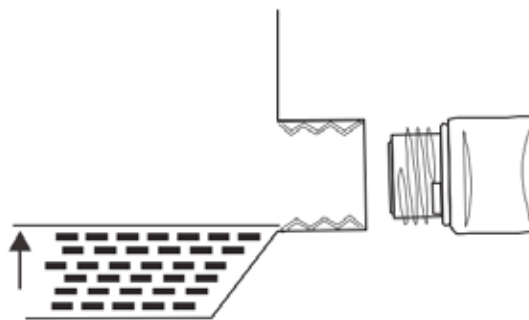

Figure 4: Engine Oil Correct Level
4. Do not overfill, if oil level is too high, oil will drain out through the fill plug. See correct oil level in Figure 4.
- The engine is filled with engine oil (see Figure 4: *Engine Oil Correct Level*).